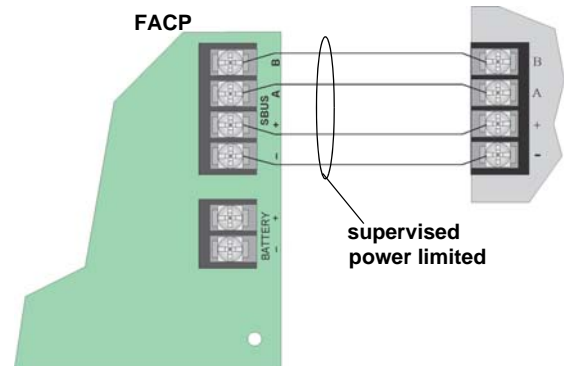

Figure 7: SBUS Connections
3. Wire the Annunciator board to the main control panel. See Figure 7.
3. Connect wires from the 6855 to the SBUS connectors on the FACP as shown in Figure 7.
Wire the 6855 to the FACP as Shown in Figure 7.
3. Connect the 6855 to the panel (see Figure 7).